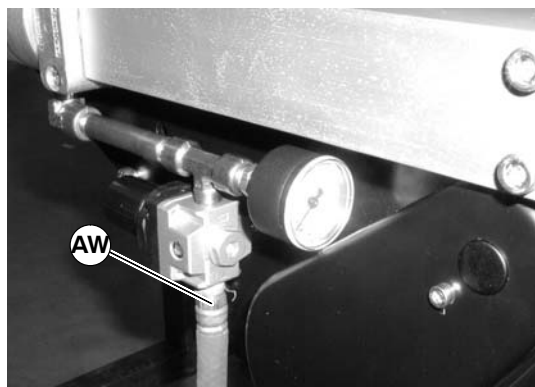

Figure 39
5. Reattach air supply (AW of Figure 39) to center drive. Refer to “Conveyor Belt Tensioning” section on page 15 for more information.
7. Reattach air supply (AW of Figure 39) to center drive. Refer to “Conveyor Belt Tensioning” section on page 15 for more information.